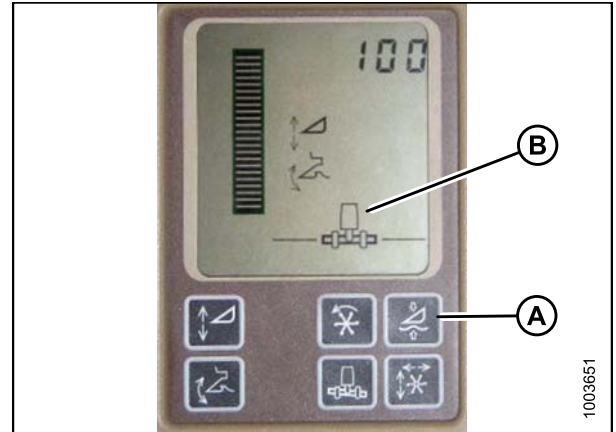

Figure 4.56: Combine Display
Do **NOT** use the active header float function (A) in combination with the MacDon Auto Header Height Control (AHHC) – the two systems will counteract one another. The header symbol (B) on the display should NOT have a wavy line under it and should appear exactly as shown on the Active Header Control Display in Figure 4.56: *Combine Display*, page 103.